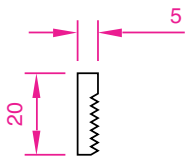

Fig. 17.10 **Second example UCS**
14. In the **UCS *FRONT*** plane, construct one of the bolts as shown in Fig. 17.10, forming a solid of revolution from a pline. Then add a head to the bolt and with **Union** add it to the screw.